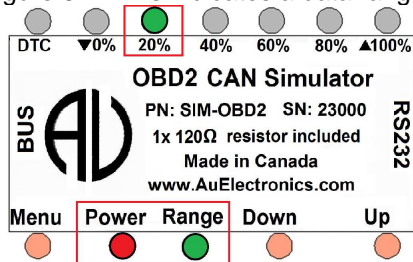

Figure 3-4
- If keep pressing **Up** button, the control step value will keep increasing. The 20% LED will then be always on, as shown in Figure 3-4. This indicates a data range from 21- 39%.